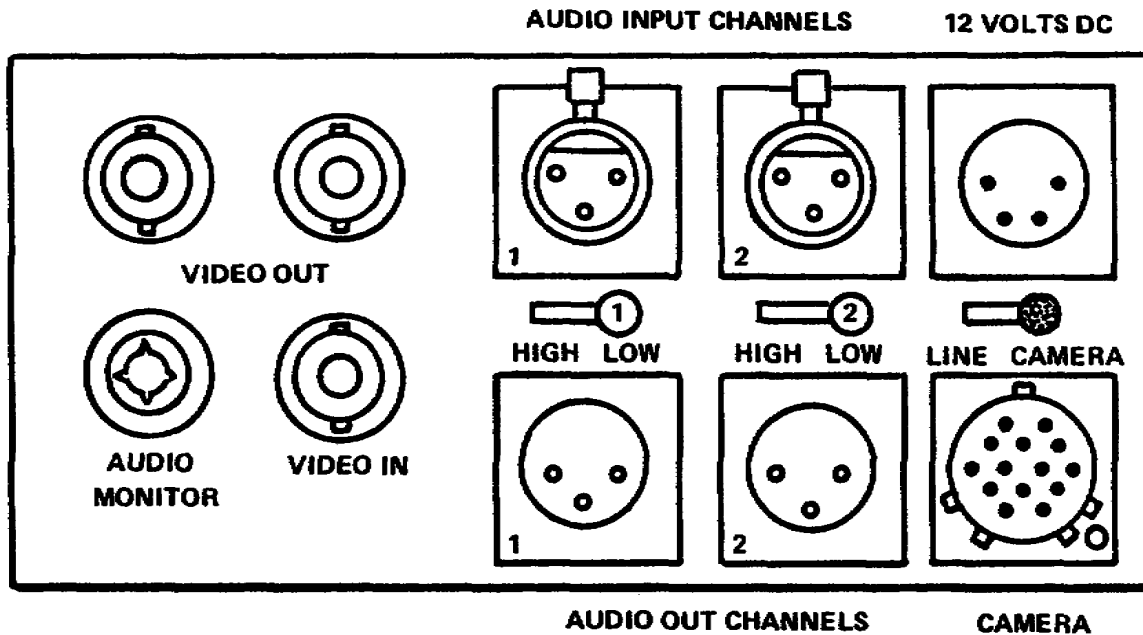

Figure 1-11. VR input and outputs
5. The side of the recorder may house many input or output connectors in order to allow audio and video signals to be monitored (fig 1-11).
f. In order to use AC outlets instead of battery power the operator can connect an AC power adapter to the DC 12 volt input connector. While the AC adapter is connected, the operator can charge any batteries connected (fig 1-11).
b. With the camera receiving power from the camera or recorder, the operator can turn on the power to the camera by using the CAMERA POWER select switch. The CAMERA POWER select switch has three functions: (1) When in the center position, the camera is in the OFF position, and at this time no power is applied to the camera; (2) When the switch is in the up position or CAMERA position, the power comes from the battery attached to the back of the camera; (3) When the operator moves the switch to the down position, or the VR position, the power comes from the VR battery. It is very important for the operator to keep the CAMERA POWER switch in the OFF position when the camera is not in use to conserve the energy from the battery. The camera also has two indicator lights that inform the operator that power is being applied to the recorder or the camera or both.